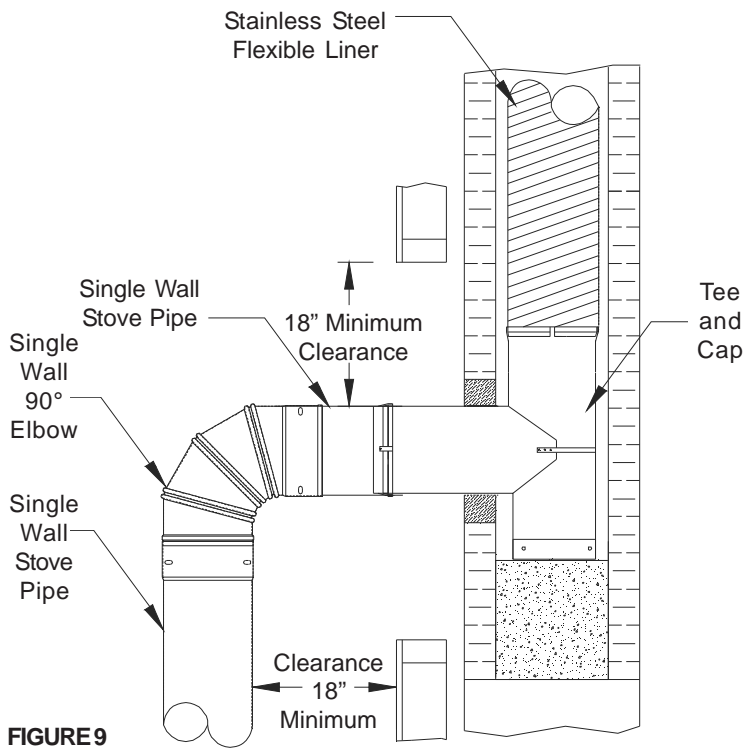

FIGURE 9
- Unless certified for lesser clearances, Code requirements for single wall uninsulated connector pipe and unprotected combustible material must not be less than 18" (457mm), see also FIGURE 9. Check your local codes for any restrictions and requirements. Model DCC or DSP Double Wall Stove Pipe can be installed at reduced clearance of 6" with the installation of the Masonry Adapter. Follow the installation instructions supplied with DCC and DSP Double Wall Stove Pipe.